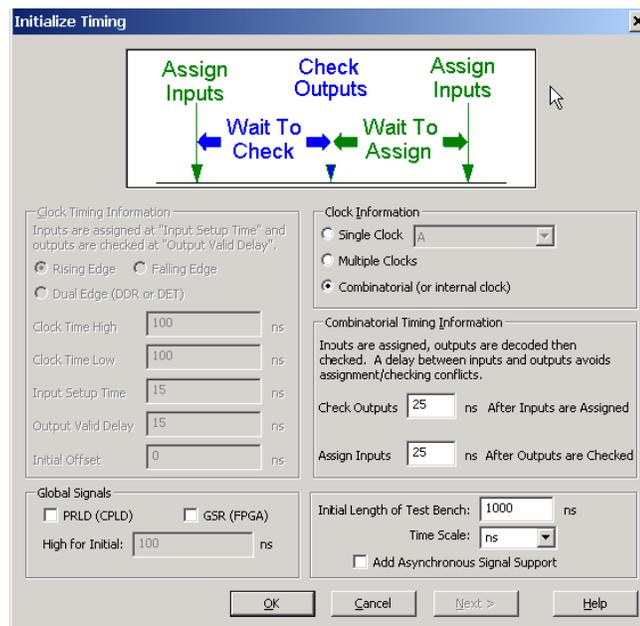
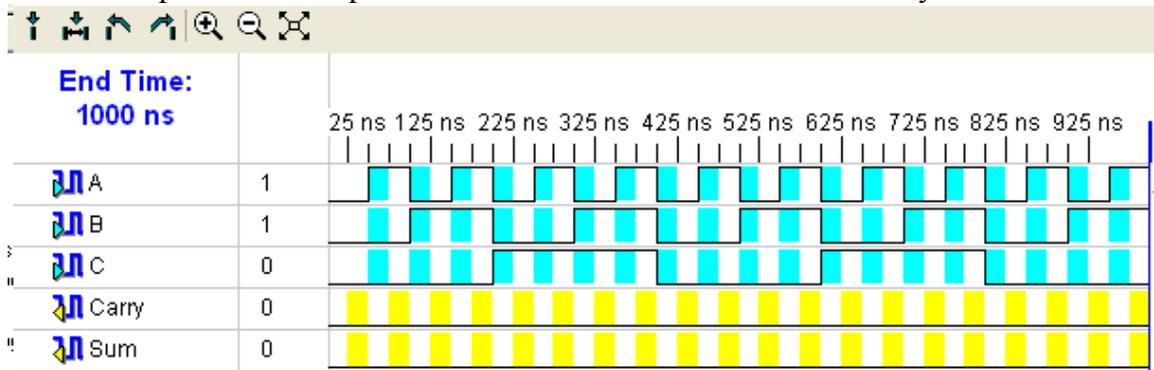

Figure B.4: Initialize Timing Window
Figure B.5: Test Bench Waveforms
2. In the **Initialize Timing** window (Figure B.4), select the option **Combinatorial Design**. In the input boxes after **Check outputs and Assign Inputs**, enter the value 25, **Initial Length of Test Bench** to 1000 ns and set the time scale to **ns** as shown below and click **OK**. This will open the **HDL Bencher** window (Figure B.5).
- Click **OK** and you'll see the waveform window of the test bench. The three input signals are marked cyan while the two output signals are marked yellow. By directly clicking on the waveform you can change the values of the signal. Just play around a little to get familiar with it. Now specify the waveforms of the three inputs as shown in Figure B.5. Notice that the waveforms of *A*, *B* and *C* cover all possible 8 combinations. For each of the eight combinations, draw the expected outputs on the waveforms of *CARRY* and *SUM*. Recall that the outputs are supposed to be 25ns later than the inputs as we specified in the previous window. Save the waveforms after you're done.